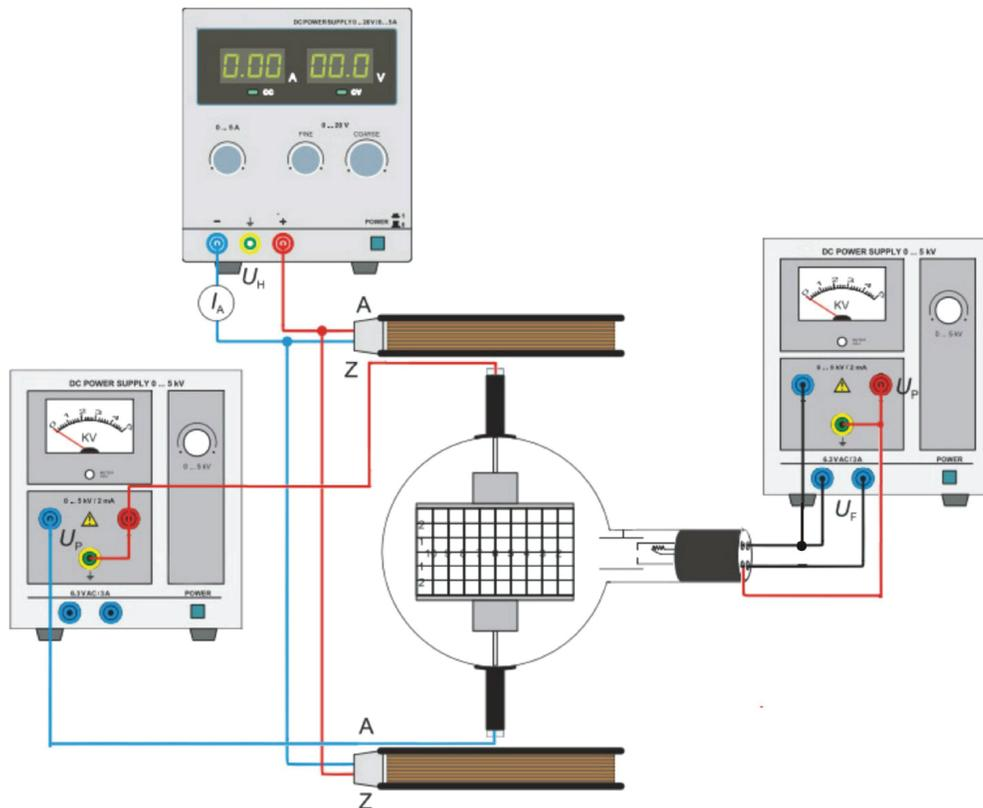

Fig.4 Determine e/m by means of field compensation
- Set up the experiment as in Fig 4.